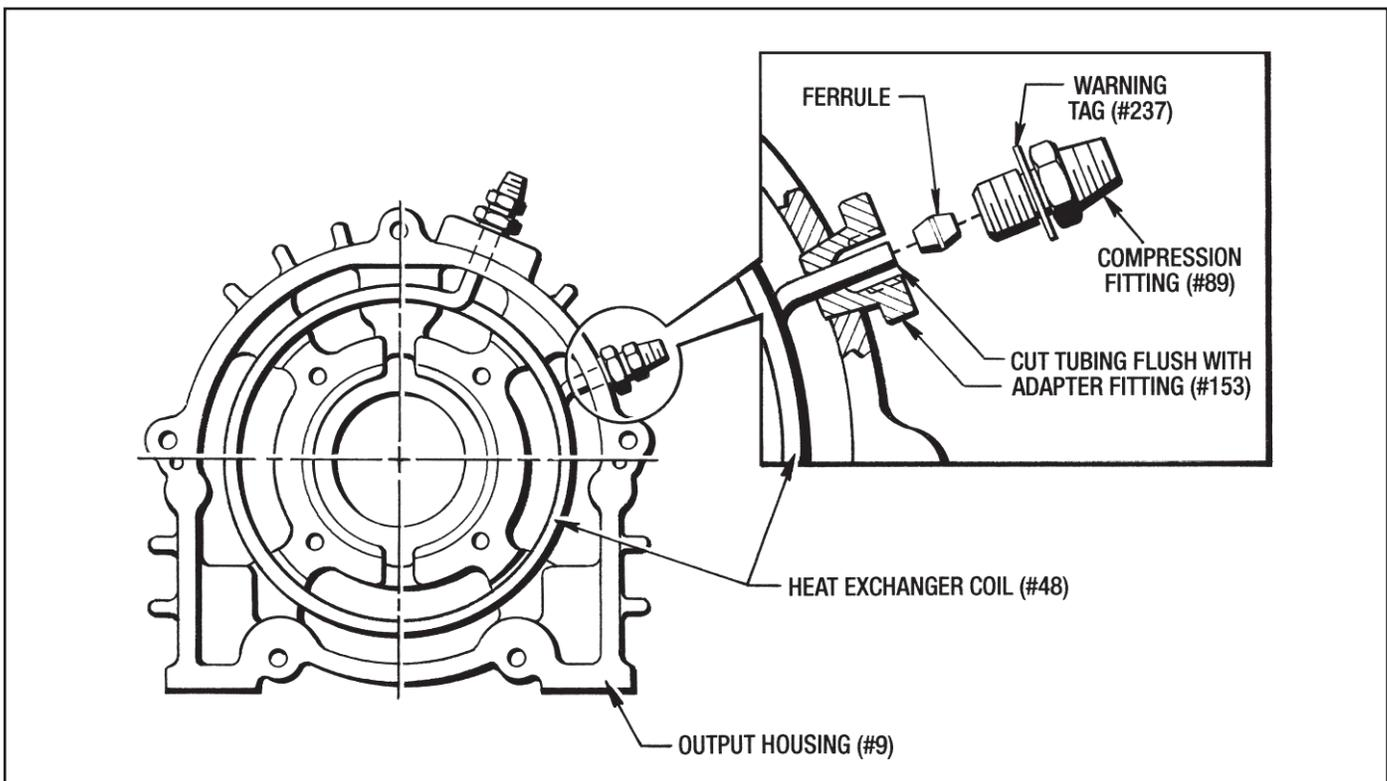

Figure 9.1 - Installing Heat Exchanger (#48)
(See Figures 9.1 and 10.1)
2. Slide the (2) Adapter Fittings (#153) over the tubing ends and screw them into the Output Housing (#9). **Use Pipe Thread Sealant on the pipe threads.**
3. Visually center the Heat Exchanger coil in the Output Housing (#9) and mark the tubing flush with the ends of each Adapter Fitting (#153). Cut both tubing ends off on your marks with a hacksaw as shown in Figure 9.1.